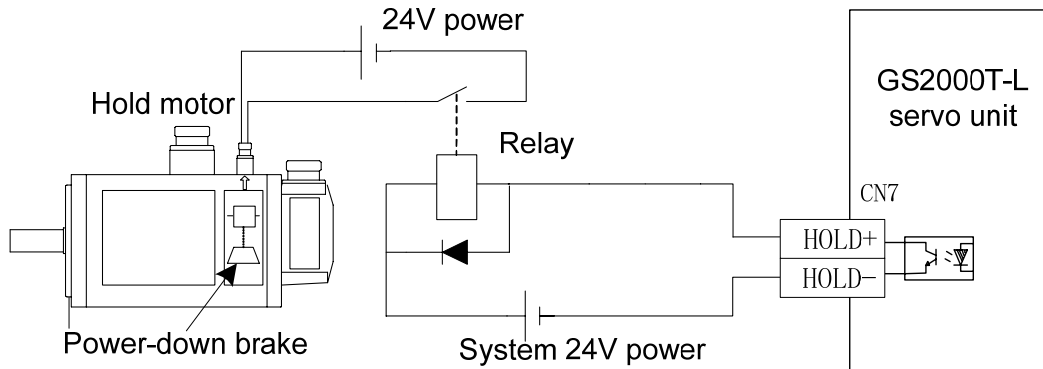

Fig. 6-2 The typical example of the HOLD± brake releasing signal
① First of all, correctly connect the wiring based upon the Fig. 6-2; it is very essential to note that the required input signal in the following table must be connected.
The brake releasing signal, in the Fig. 6-2, controls the actual wiring principle of the brake motor. The 24V in the following figure is offered by user; note that the polarities of the leading power when the brake releasing signals (HOLD±) are executed.